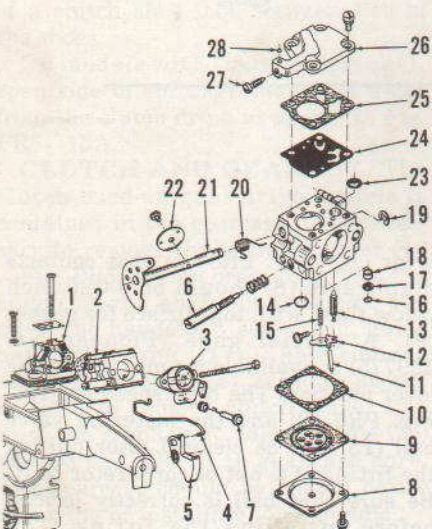

Fig. PR6-5—Exploded view of the Tillotson carburetor used on late models. The choke valve is contained in the blowback tube (3).
A Tillotson diaphragm carburetor with integral fuel pump is used on 1073 and 2073 models. Initial setting for the low speed mixture needle (6—Fig. PR6-5) is 7/8-1 turn open from the lightly seated position. The high speed mixture is determined by the size of the orifice (18). Idle speed is adjusted by turning the adjusting screw (27). End of fuel control lever (12) that contacts diaphragm (9) should be flush with casting. The choke valve is located in the blowback tube (3).